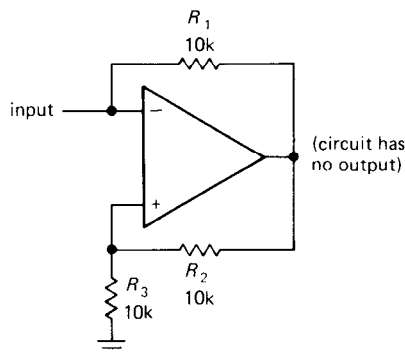

Figure 4.92
(6) The circuit in Figure 4.92 is an example of a “negative-impedance converter.” (a) What is its input impedance? (b) If the op-amp’s output range goes from V_+ to V_- , what range of input voltages will this circuit accommodate without saturation?